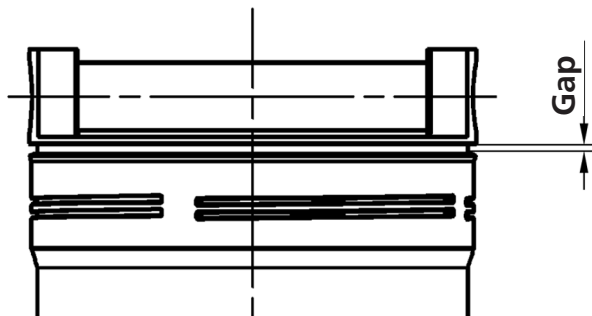

Fig. 3: Gap at the filter cover
- › Manually turn the cover until it stops; a gap between cover and housing may remain visible (see Figure 3).
(see Chapter 8.1 "Before commissioning" / Fig. 3)